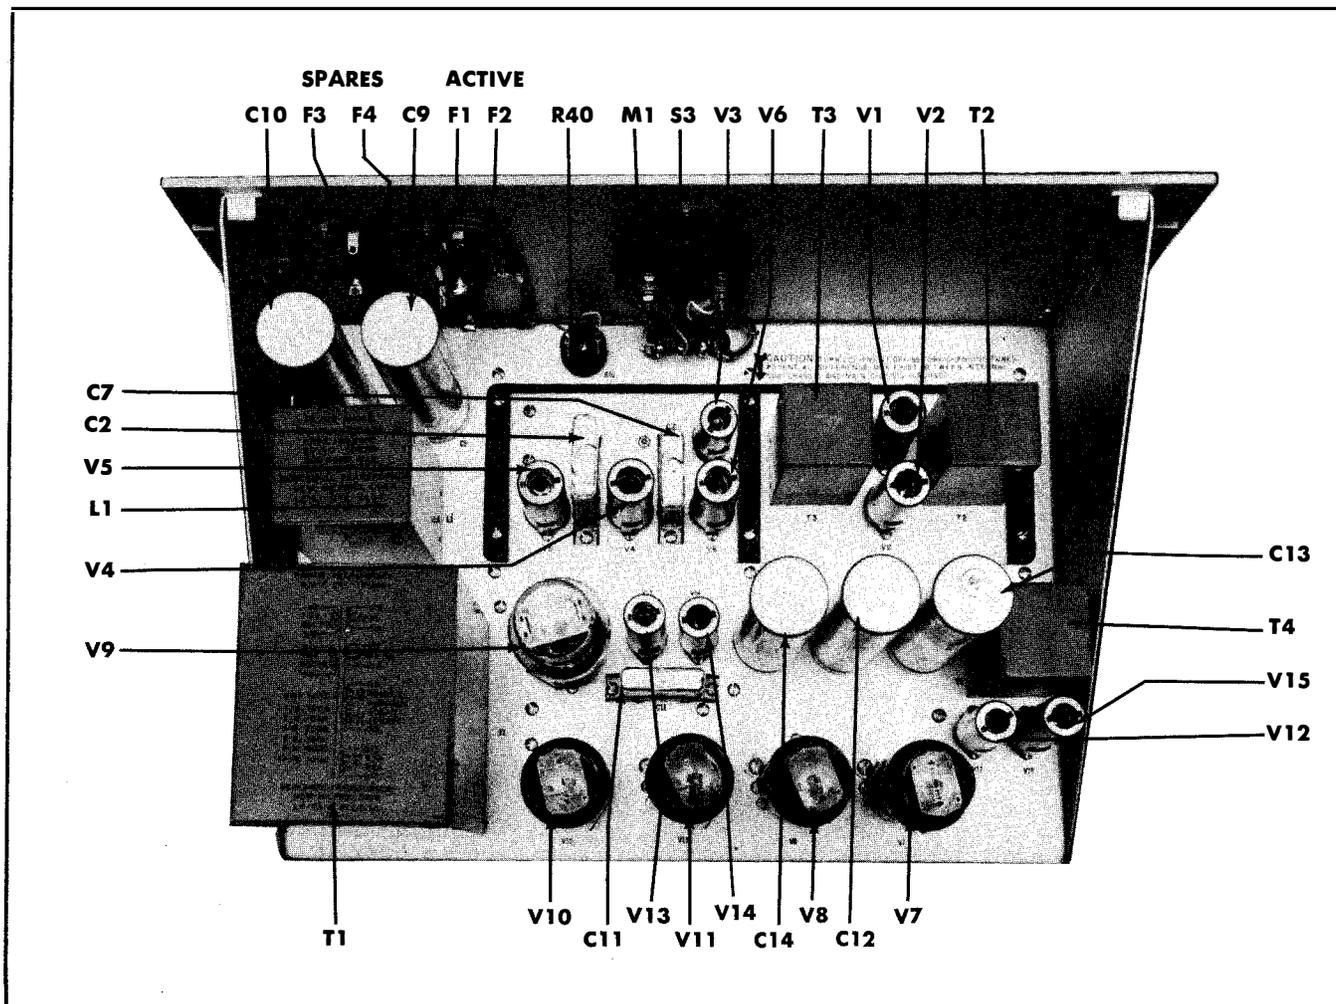
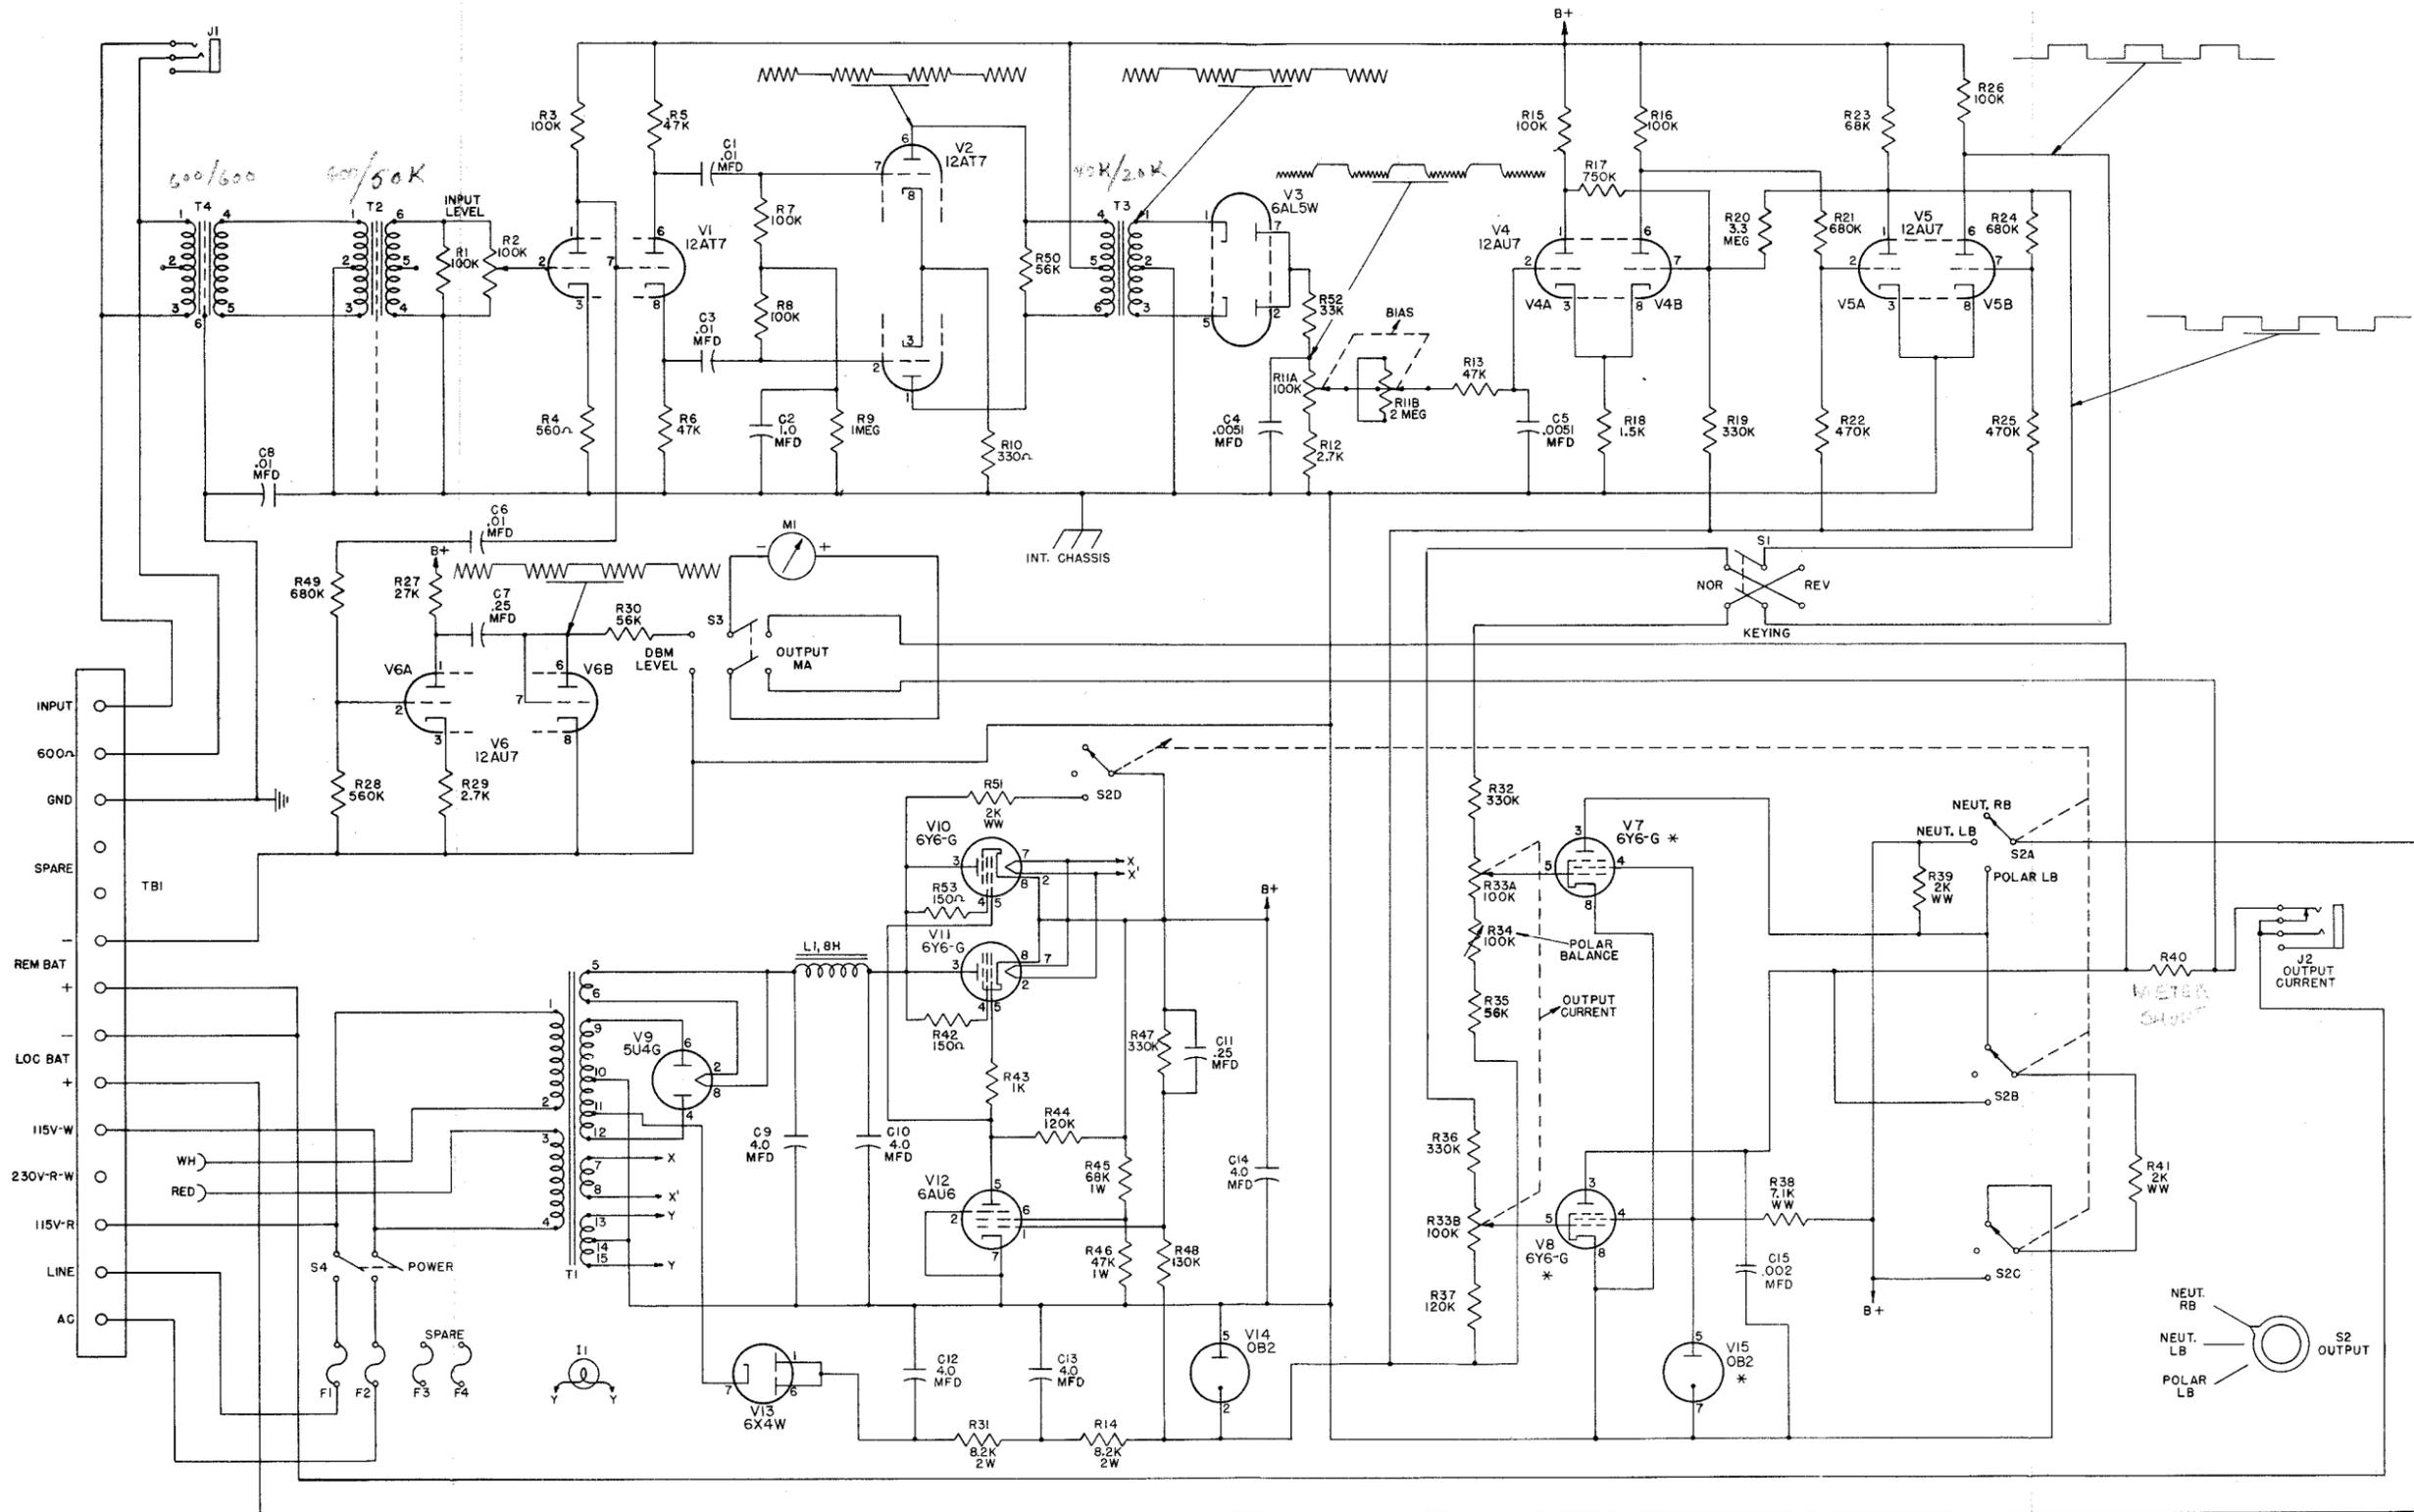

Figure 5-1. Receiver, Carrier Telegraph R-466/UC,
Figure 7-3. Receiver, Carrier Telegraph R-466/UC, Schematic Diagram
The location of all tubes is indicated in Figure 5-1. Tubes may be checked visually to see if they are lighted. All electron tubes in the Receiver are accessible from the rear of the rack after the dust cover is removed. The dust cover may be removed by turning the Dzus fasteners at the rear of the cover counterclockwise and pulling
(1) **Trouble Shooting Chart** - A chart showing symptoms of trouble and circuits to check is illustrated in Table 7-1. This chart requires dynamic testing in some cases using an oscilloscope connected to indicated points and a keyed signal fed to the unit. The Schematic Diagram, Figure 7-3 includes typical waveforms to be seen at indicated points. Before using the trouble chart, B+ voltage (240 V) across capacitor C14 and C- voltage (105 V) across VR tube V14 should be checked.
(a) All circuit components mentioned in Table 7-1 are illustrated in Figures 5-1 and 7-2 which show the location of parts above the chassis and the location of parts below the chassis. All parts shown on the Schematic Diagram, Figure 7-3, may be found in either Figures 5-1 or 7-2.
(a) **Schematic Diagram** - The Schematic Diagram of the Receiver is illustrated in Figure 7-3.